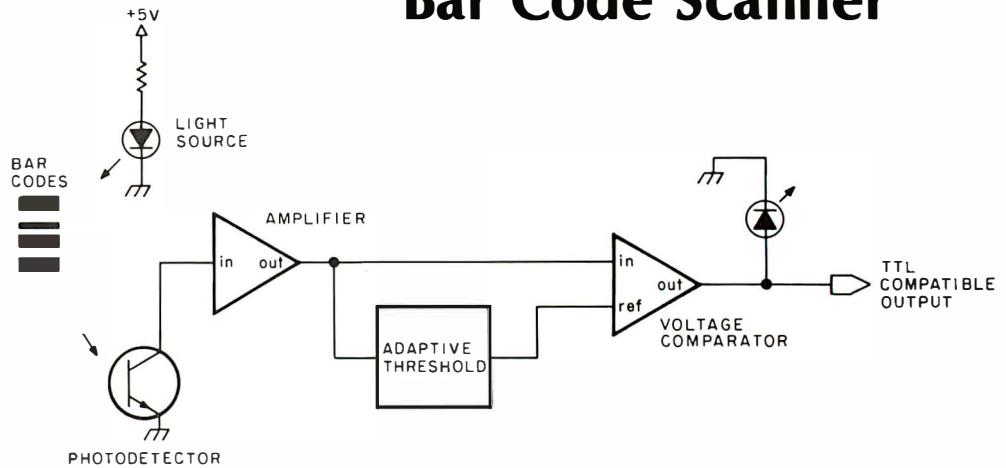

Figure 1: Functional diagram of the BCS-1 hand held bar code scanner.
The scanner consists of a light source, a phototransistor and the signal conditioning circuitry shown in figure 1. The light source, an infrared light emitting diode (LED), illuminates the surface of the paper through an aperture slightly smaller than the area of a unit width bar. Viewing this same surface area through the aperture is a phototransistor. The transmitted and reflected light either passes directly through the aperture or travels through a bifurcated fiber optic cable as described in my article, "Signal Processing for Optical Bar Code Scanning," December 1976 BYTE, page 77.
*Figure 1: White to play. This example illustrates some of the basic problems of strategy and tactics that must be evaluated by any chess playing computer in a typical position. The computer (White) must evaluate a variety of possibilities: two good first moves for White include 1 R-B7 and 1 BxN ch. 1 R-B7 threatens BxB. Therefore Black must either exchange Bishops or gain time by the counterattack 1...B-K4. If 1...BxB, White must complete the exchange by playing 2 RxB or 2 BxN ch, and so on. The position is analyzed in detail in the game tree shown in figure 2.*
To get a notion of what a chess program must do, let's look at a position from an actual game (see figure 1). First we must grasp the important features of the position. White has an extra pawn, a passed pawn far from Black's King. Black's mobility is very limited: neither the Knight nor the Rook can move. Black's Bishop is attacking White's Rook and, indirectly, the Bishop behind it. Of less importance, because of Black's lack of mobility, is the fact that two of White's pawns are unguarded. White's task is to save